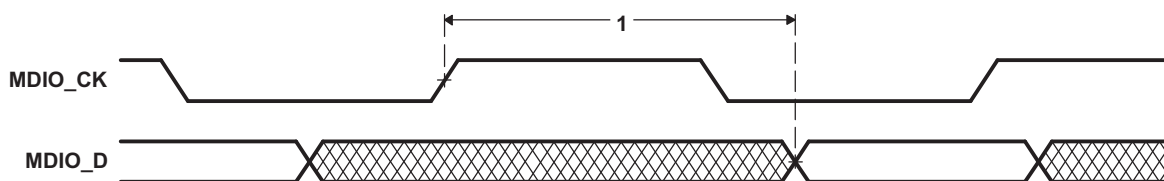

**Figure 5-41. MII Serial Management Timing – MDIO as Output**
**Table 5-64. Switching Characteristics for MDIO as Output (see Figure 5-41)**